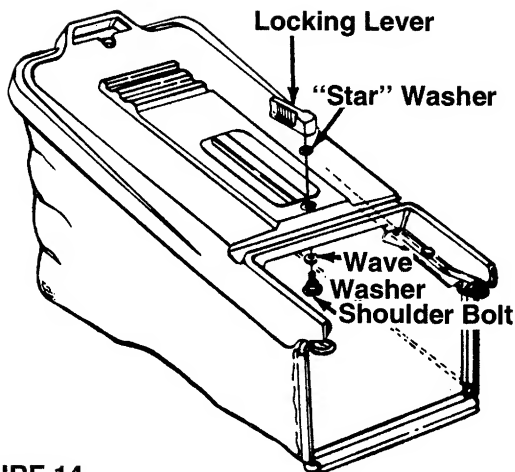

FIGURE 14.
- b. Insert shoulder bolt up through hole in hardtop cover as shown in figure 14. Place "star" washer over shoulder bolt.